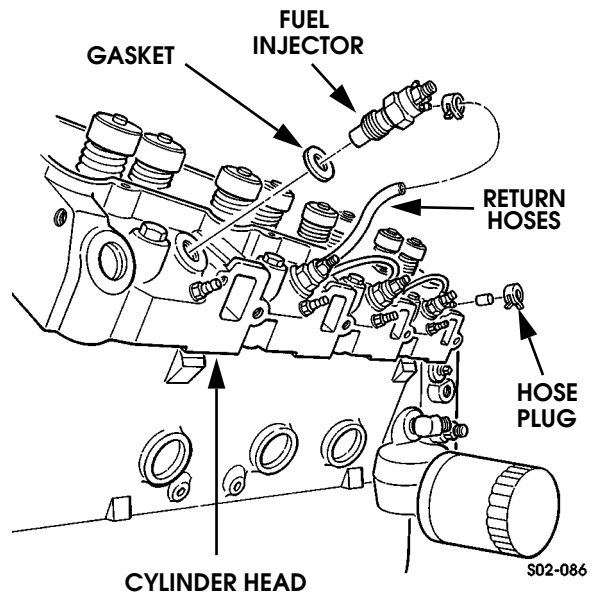

Figure 2-101: Fuel Injector Removal
2. Remove fuel injectors and gaskets (Figure 2-101).